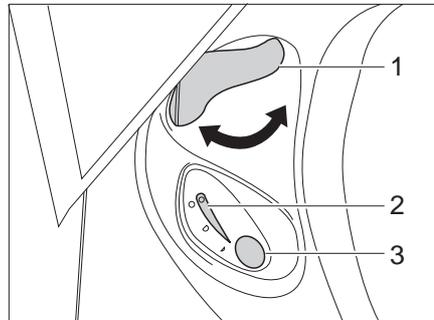

Fig. 162 Operating unit Thetford toilet
- After flushing close the sliding trap. To do this turn the slide lever (Fig. 162,1) clockwise.
- Before flushing open the sliding trap of the Thetford toilet. To do this, turn the slide lever (Fig. 162,1) anticlockwise.
- For flushing, press the blue flush button (Fig. 162,3).
The indicator lamp (Fig. 162,2) goes on whenever the Thetford cassette has to be emptied.
- Turn the slide lever (Fig. 162,1) clockwise. The sliding trap is closed. To empty, the sliding trap in the Thetford toilet **must** be closed.